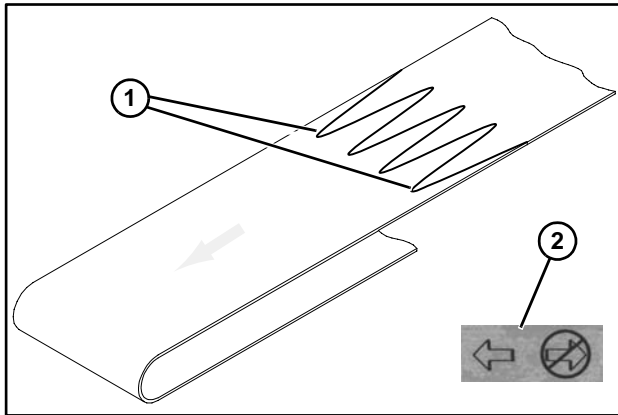

Figure 22
1. Ensure temporary support stands (**Figure 22, item 1**) are placed at both ends of the conveyor.
2. Orient belt so splice leading fingers (**Figure 22, item 1**) point in the direction of belt travel as identified by the conveyor directional label (**Figure 22, item 2**).